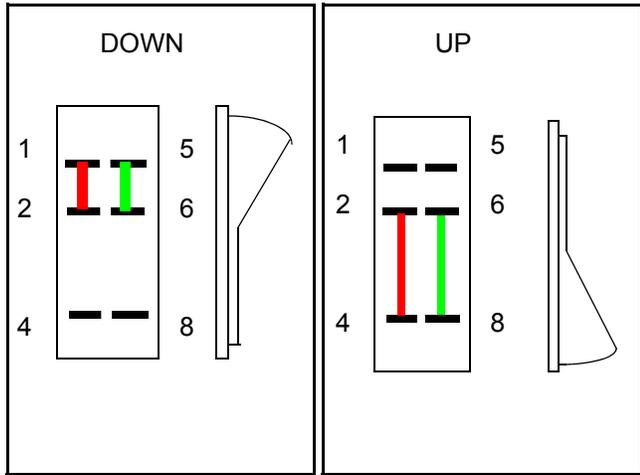

Figure 33.2
33.2. Rocking the switch in one direction closes contacts joining 1 to 2 (Y) and 5 to 6 (R), connecting power to terminal 2 and ground to terminal 5. See Figure 33.2.